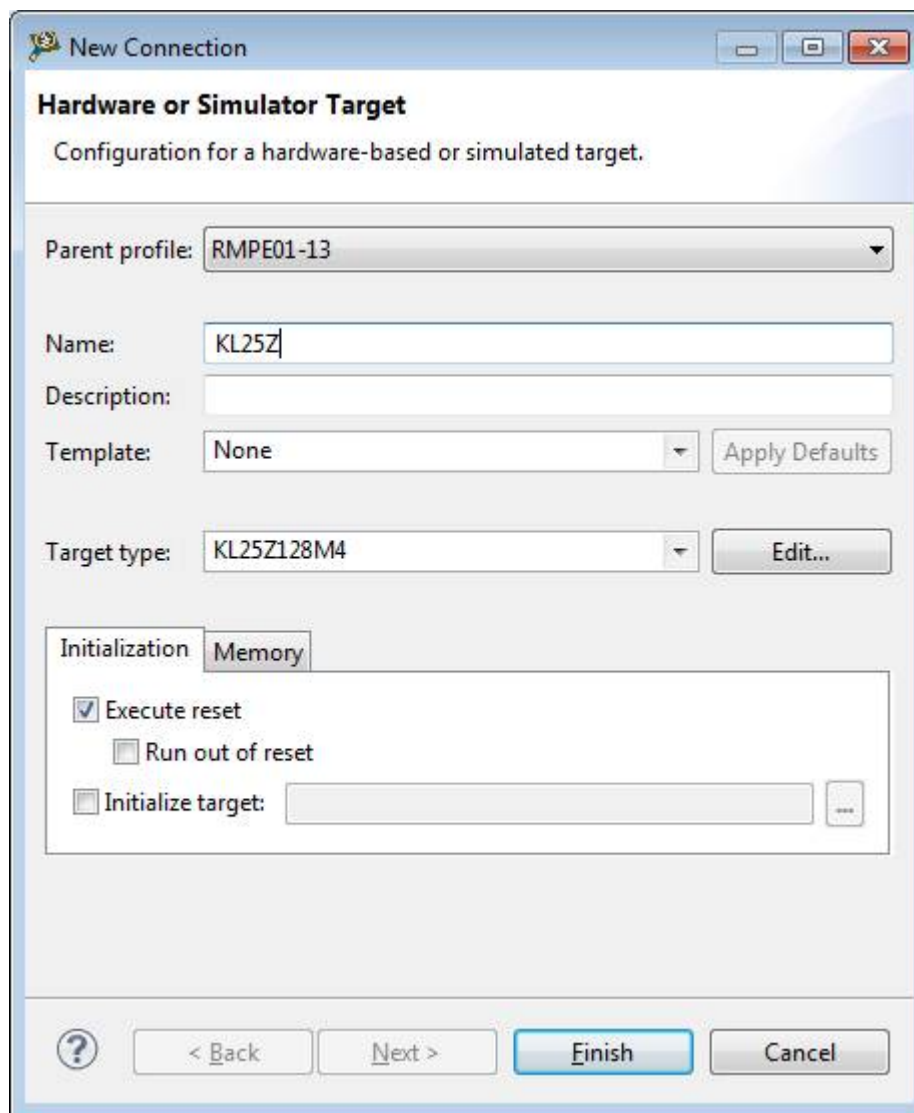

Figure A-5. Selecting CodeWarrior Target type
7. Click the Edit button on the **Target type** field, see Figure A-5.
8. Check the “**Execute reset**” check box, (see Figure A-5) then enter a value in the name field and click **Finish**.